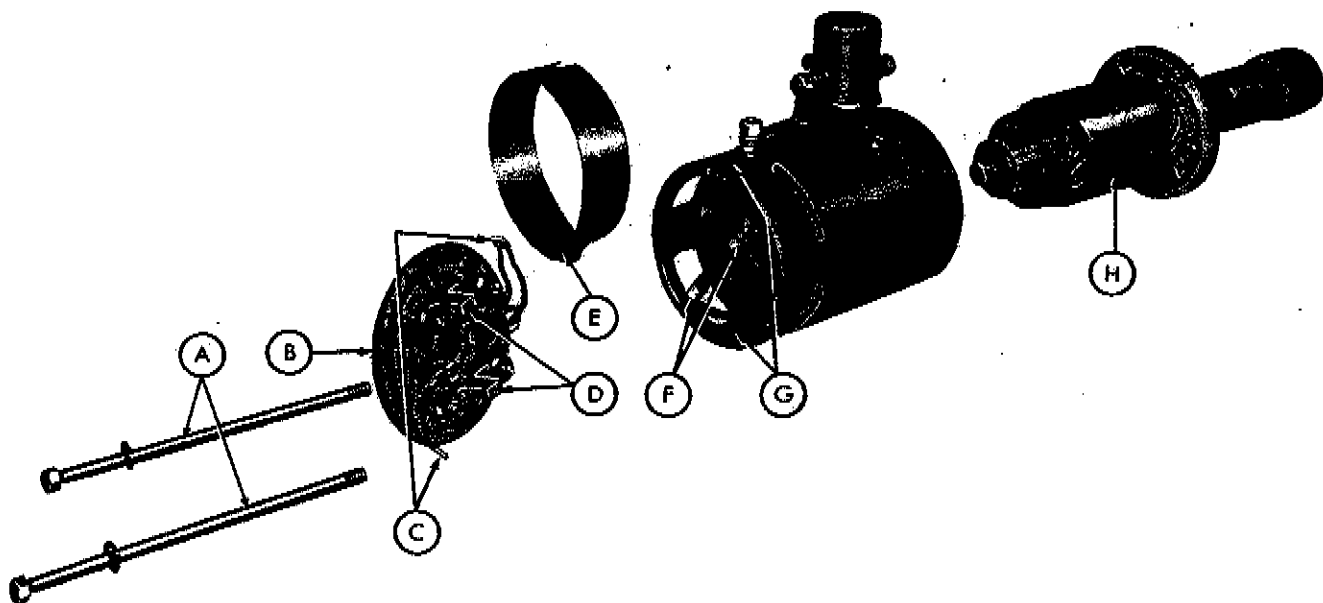

Fig. 1
- Step 1—Remove the two long bolts (A-Figure 1).
- Step 2—Remove the armature and the bendix assembly (H-Figure 1) as a unit.
- Step 3—Remove the cover band (E-Figure 1) from the starter case.
- Step 4—Remove the brush end plate assembly (B-Figure 1).
- (F-Figure 1) from the brackets (D-Figure 1) in the brush end plate.
- b. Remove the two screws (G-Figure 1) that hold the ground brushes (C-Figure 1) to the starter housing.